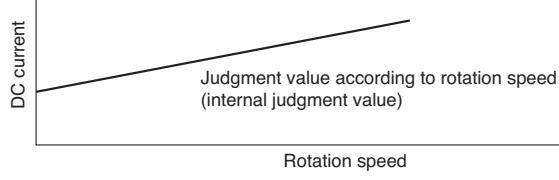

Fig. 6-4
Fig. 6-4 shows the rotation speed control. When the voltage at pin ⑥0 of the microcomputer exceeds the set value, the microcomputer decreases the rotation speed of the compressor and reduces the load.